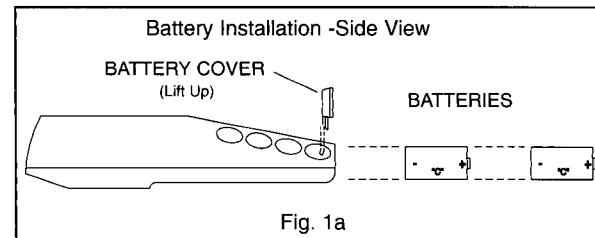

Fig. 1a
1. Remove the battery compartment door located on the bottom of the unit by sliding up, as shown above. Install batteries, Positive Polarity towards the battery cover (See Figure 1a).